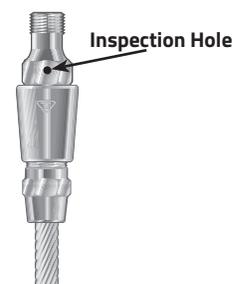

Figure 5
STEP 6: Inspect for proper assembly. (Figure 5) Prior to proof-loading, strands visible through the inspection hole are your assurance of a proper assembly. The end of the rope may not be visible in the inspection hole after proof-loading.